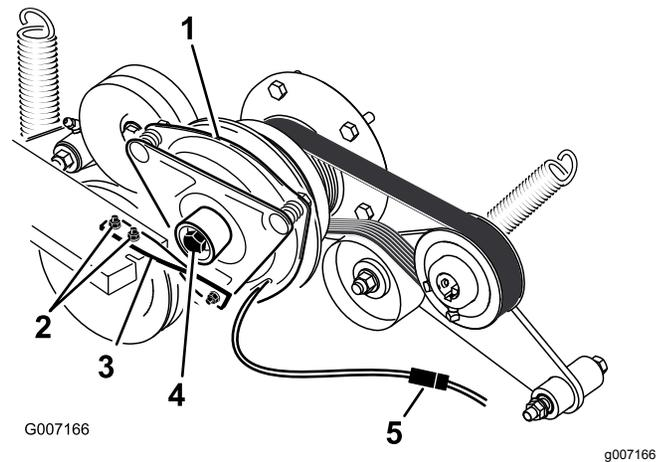

Figure 78
6. Unplug the electric connection for the clutch (Figure 78).
7. Remove the 2 bolts holding the rubber clutch strap to the mower frame (Figure 78).
8. Remove the center bolt holding the clutch to the engine shaft and remove the clutch and key (Figure 78).
15. While holding the crank shaft at the back of the machine, install the center bolt and torque it to 68 N·m (50 ft-lb) (Figure 78).
16. Install the rubber clutch strap to the mower frame with the 2 previously removed bolts and nuts (Figure 78).
18. Plug in the electric connection for the clutch (Figure 78).